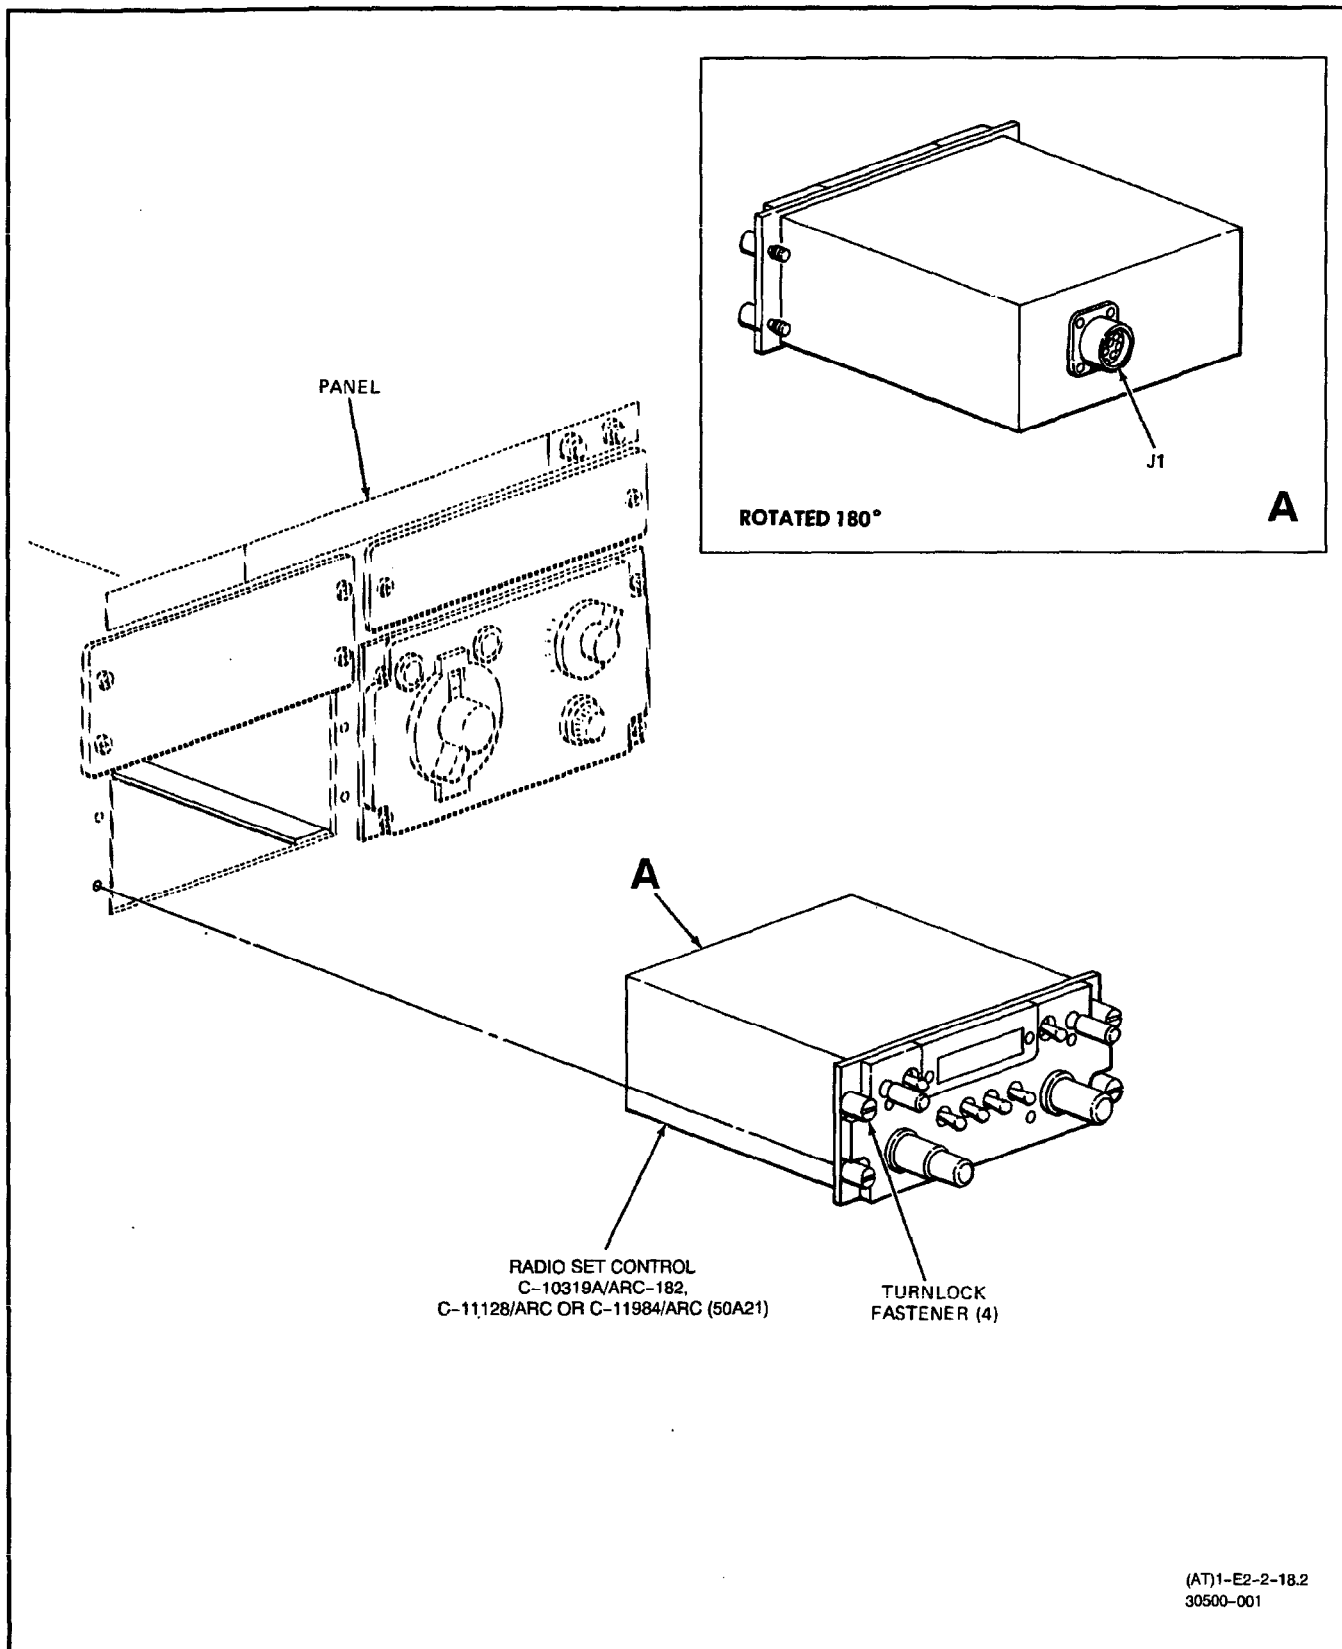

Figure 1. Removal and Installation of Radio Set Control C-10319A/ARC-182, C-11128/ARC, or C-11984/ARC in Cockpit
2. The Radio Set Control C-10319A/ARC-182, C-11128/ARC, or C-11984/ARC (hereinafter referred to as control) (50A16, 50A21, and 50A22) is part of Radio Set AN/ARC-182. There are three identical controls: One control (50A21) is located in cockpit (refer to WP003 00, figure 1, item 7A, 7B, or 7C) and two controls (50A16 and 50A22) are located in crew compartment (refer to WP003 00, figure 4, items 67, 67A, or 67B and 69, 69A, or 69B).
**3. REMOVAL. (Figures 1 and 2.)**
4. **INSTALLATION.** (Figures 1 and 2.)